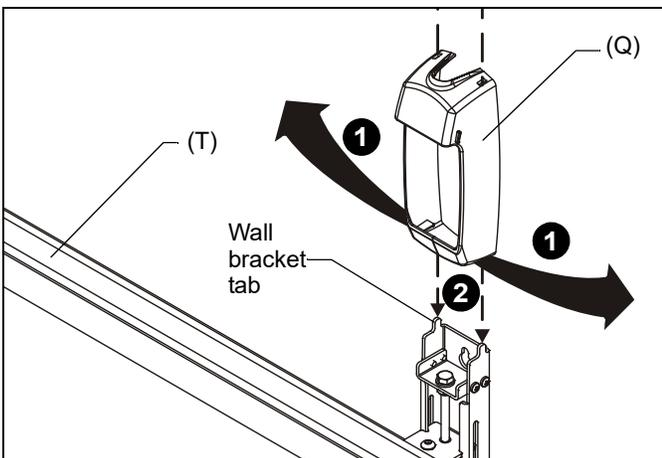

Figure 18
1. Open the lower flaps of the wall bracket cover (Q) outward. (See Figure 18)
2. Slide the cover downward, hooking the top of the wall bracket covers (Q) onto the tabs on top of wall assembly brackets. (See Figure 18)
3. Slide the lower flaps of the wall bracket cover (Q) under the bottom of the wall assembly brackets (T).